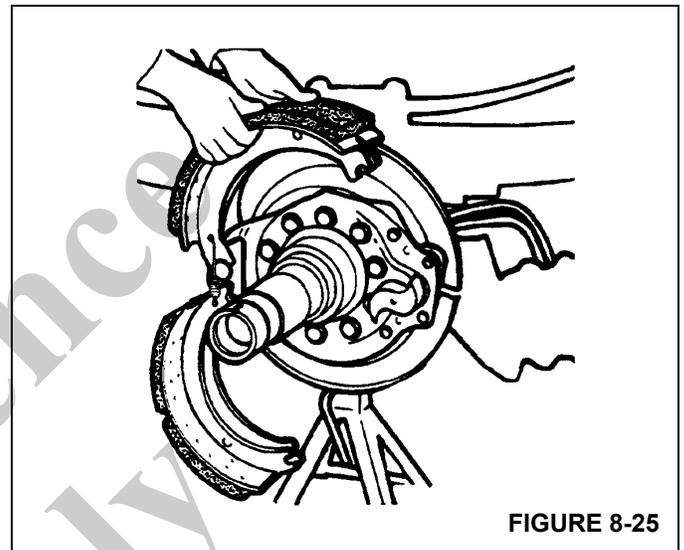

FIGURE 8-25
12. Remove the shoes from the axle (Figure 8-25).